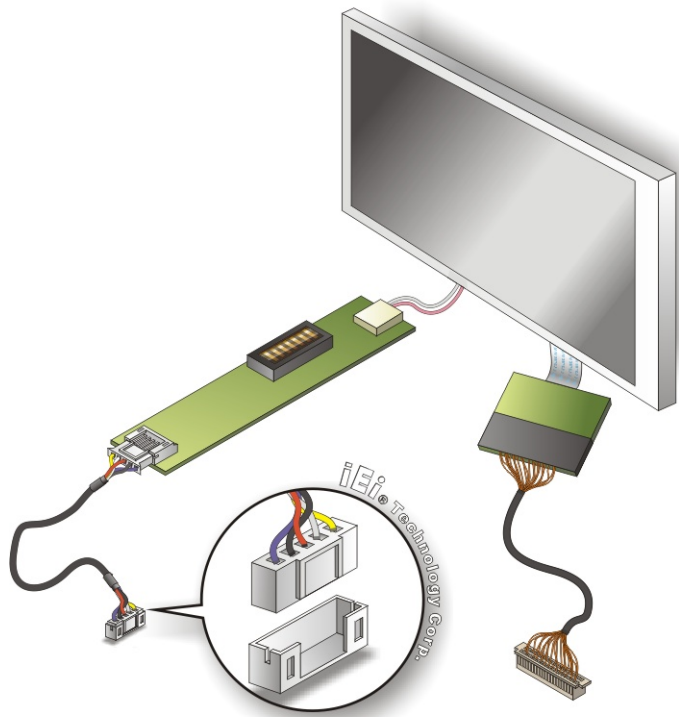

Figure 4-6: Backlight Inverter Connection
Step 4: **Connect backlight connector.** Connect the backlight connector to the driver TFT LCD PCB as shown in **Figure 4-6**. When inserting the cable connector, make sure the pins are properly aligned.